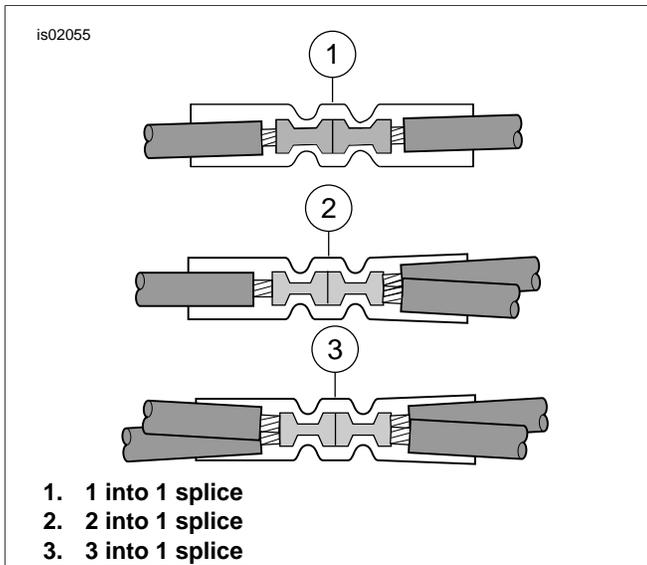

Figure 2. Splice Configurations
- a. Cut off and discard the terminal on the Pink (PK) **mini-tach wire harness** signal lead.
- b. Remove the Pink (PK) lead from the ignition or ECM harness connector cavity #3 according to the DEUTSCH ELECTRICAL CONNECTOR instructions in the Service Manual. Cut the lead about one inch (25.4 mm) from the terminal.
- c. Obtain a butt-splice connector (6) from the kit. See Figure 2, the 2 into 1 splice configuration. Splice the mini-tach wire harness signal lead and two segments of the Pink (PK) lead from cavity #3 according to the SEALED BUTT SPLICE CONNECTOR instructions in the Service Manual.
- d. Re-insert the terminal and Pink (PK) lead into cavity #3 according to the DEUTSCH ELECTRICAL CONNECTOR instructions in the Service Manual.
- c. Obtain a butt-splice connector (6) from the kit. See Figure 2, the 2 into 1 splice configuration. Splice the mini-tach wire harness power lead and two segments of the Orange/ White (O/W) lead from cavity #2 according to the SEALED BUTT SPLICE CONNECTOR instructions in the Service Manual.